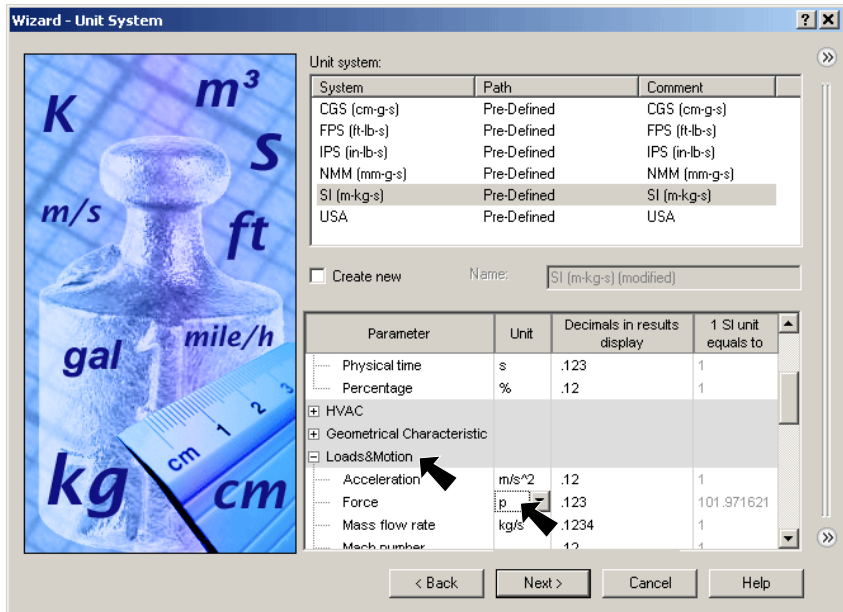

Fig. 4
Step 7. Scroll down Parameters, expand **Loads & Motion** and set Force units to **Gram force**, Fig. 4. Gram force unit is p.